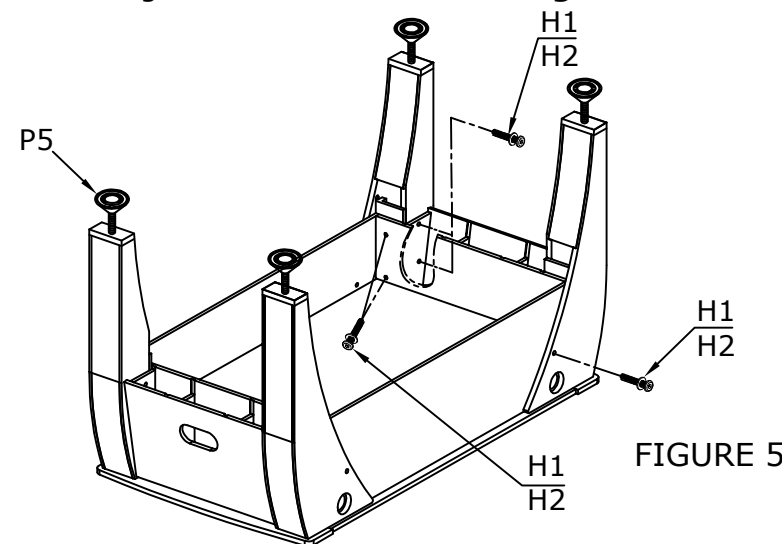

FIGURE 5
7. Attach the leg levelers **P5** as shown in **Figure 5**.